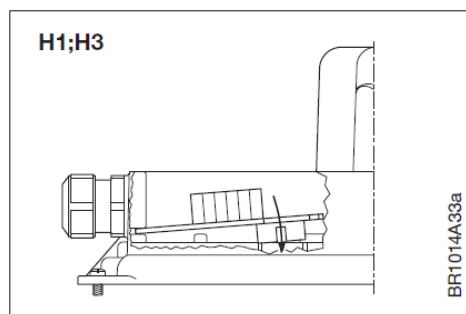
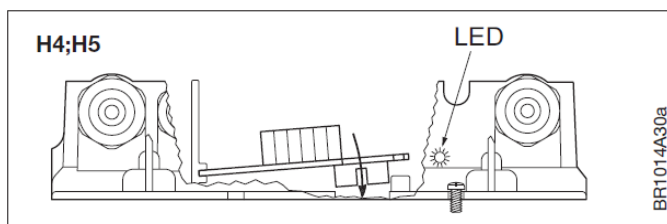

Fig. 9-4
Fig 9-6
- Carefully align the 10-pin connectors to each other and gently press them together (see fig. 9-4 for H1 and H3, see fig. 9-6 for H4 and H5).